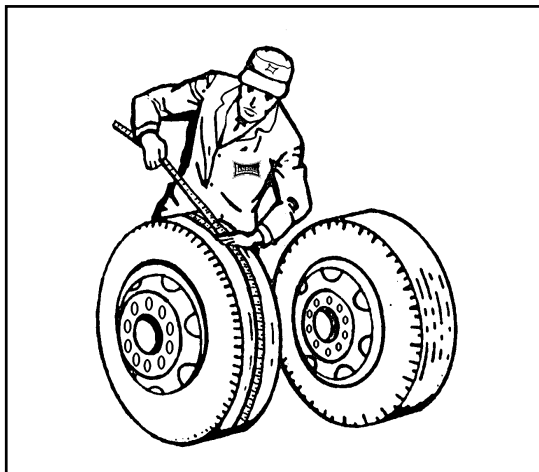

Figure 4-16 Measuring Tape Method
**a. Tape Measuring Method:** Measure around each tire on the tread surface. A maximum difference of 3/4" is allowed between the two mating tires of a dual (**See Figure 4-16**).